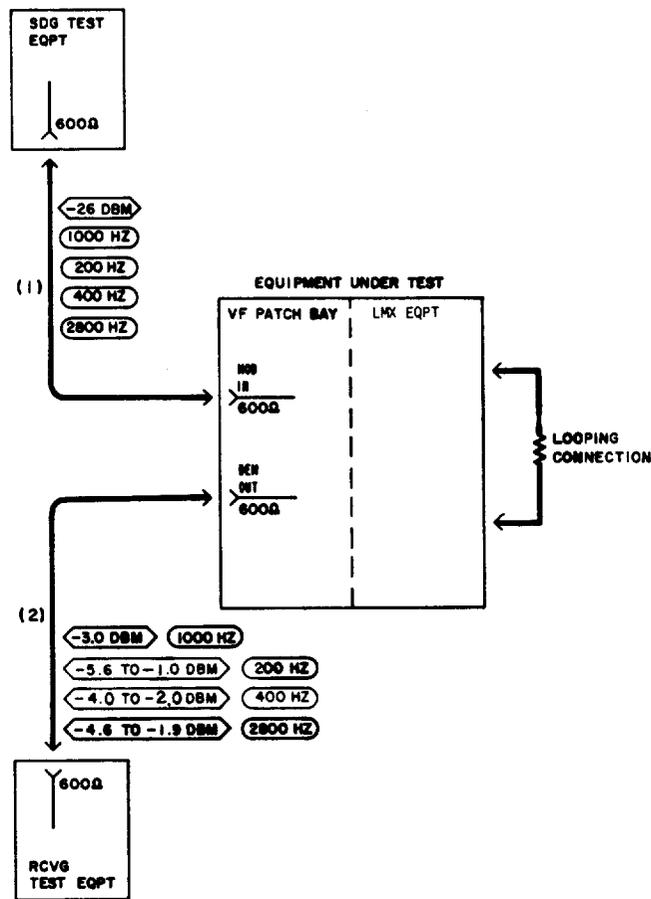

Fig. 7—Patching Diagram—Frequency Response Test
| 5 | Connect the STE to the MOD IN jack for Channel 1 of the channel bank under test [patch (1), Fig. 7]. |
| 6 | Connect the RTE to the DEM OUT jack for the channel under test [patch (2), Fig. 7]. |
| 12 | Remove patches (1) and (2), Fig. 7. |